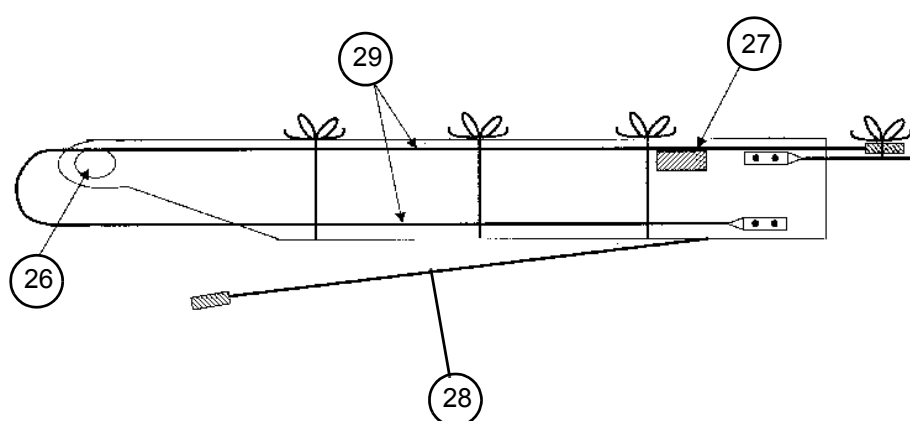

Figure 8
- Put the pin into place (26).
- Prepare the slings on the head element (see Figure 8).